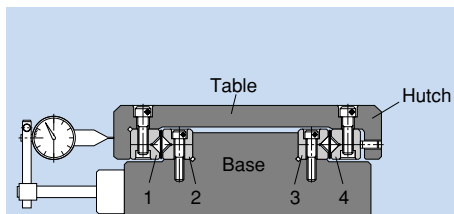

Fig. 6 Installation of the Cross Roller Guide
③ Place the base and the tables as shown in Fig. 6, and then insert the roller cage from the end. If the cage does not enter because there is no clearance, slide rail 4 toward the adjustment bolt first, and then insert the cage again.
④ Place a dial gauge as shown in Fig. 6. Then, lightly screw all adjustment bolts evenly until the clearance is almost eliminated while gently pressing the table sideways.
⑤ Attach the stopper to the rail end.
⑥ Slide the table and adjust the cage position so as to achieve the required stroke.